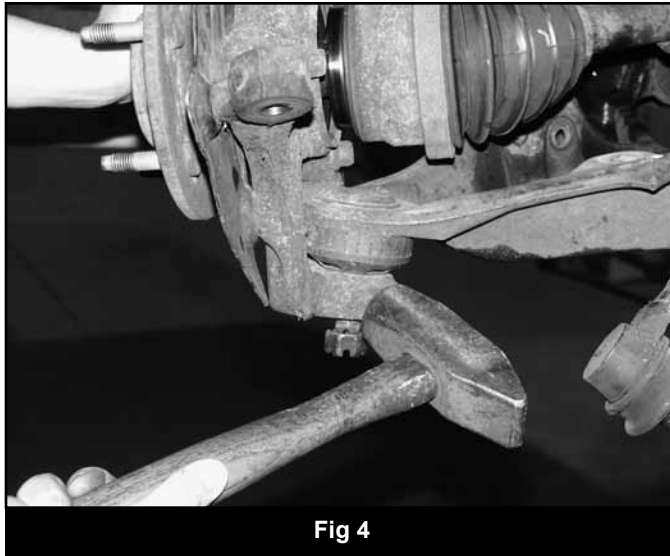

Fig 4
20. Remove the upper and lower ball joint cotter pins and nuts. Reinstall the nuts a few turns by hand. Dislodge the upper and lower ball joints from the steering knuckle by striking the knuckle near each joint with a hammer (Fig 4). Remove the ball joint nuts and remove the knuckle from the vehicle. Retain the ball joint nuts.